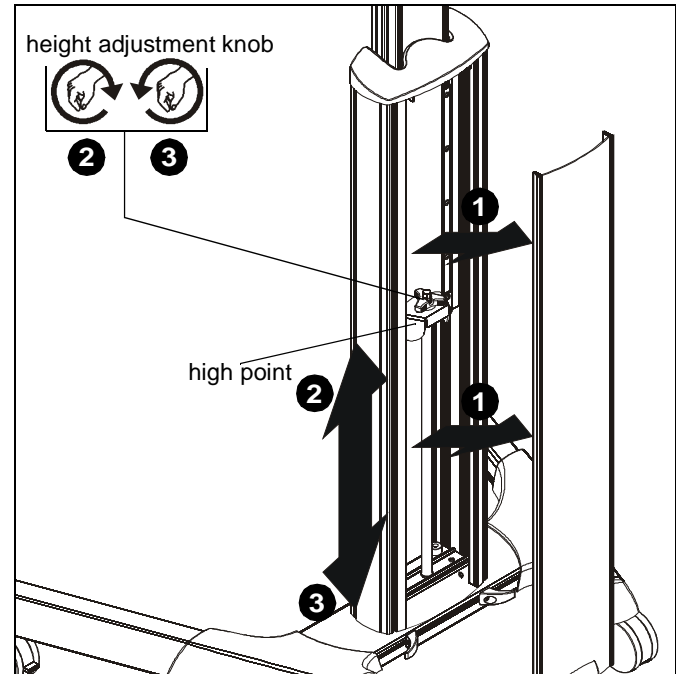

Figure 15
1. Remove cable cover (G) to expose height adjustment knob.
2. Turn height adjustment knob clockwise to raise display. (See Figure 15)
3. Turn height adjustment knob counterclockwise to lower display. (See Figure 15)
**WARNING:** Do not attempt to raise or lower the adjustment carriage beyond its upper or lower limit. High and low points are shown in Figures 15 and 16.
4. Reinstall cable cover (G) to column assembly.